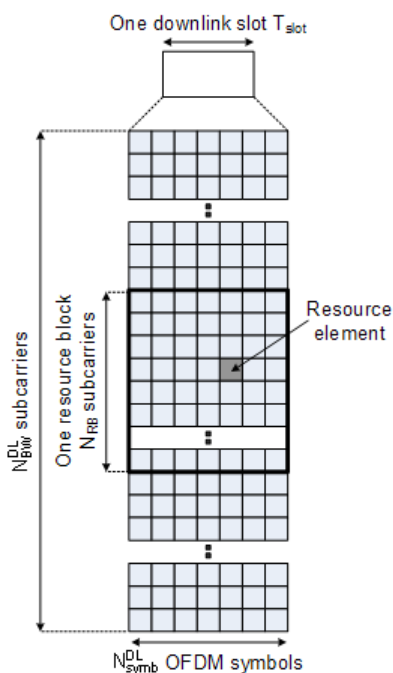

Fig. 1-5: Downlink Resource Grid
figure 1-5 shows the structure of the downlink resource grid for the duration of one downlink slot. The available downlink bandwidth consists of $N_{\text{BW}}^{\text{DL}}$ subcarriers with a spacing of $\Delta f = 15 \text{ kHz}$. In the case of multi-cell MBMS transmission, a subcarrier spacing of $\Delta f = 7.5 \text{ kHz}$ is also possible. $N_{\text{BW}}^{\text{DL}}$ can vary in order to allow for scalable bandwidth operation up to 20 MHz. Initially, the bandwidths for LTE were explicitly defined within layer 1 specifications. Later on a bandwidth agnostic layer 1 was introduced, with $N_{\text{BW}}^{\text{DL}}$ for the different bandwidths to be specified by 3GPP RAN4 to meet performance requirements, e.g. for out-of-band emission requirements and regulatory emission limits.
Data is allocated to the UEs in terms of resource blocks. A physical resource block consists of 12 (24) consecutive subcarriers in the frequency domain for the $\Delta f=15$ kHz ($\Delta f=7.5$ kHz) case. In the time domain, a physical resource block consists of DL N_{symbol} consecutive OFDM symbols, see figure 1-5. $N_{\text{symbol}}^{\text{DL}}$ is equal to the number of OFDM symbols in a slot. The resource block size is the same for all bandwidths, therefore the number of available physical resource blocks depends on the bandwidth. Depending on the required data rate, each UE can be assigned one or more resource blocks in each transmission time interval of 1 ms. The scheduling decision is done in the base station (eNodeB). The user data is carried on the physical downlink shared channel (PDSCH). Downlink control signaling on the physical downlink control channel (PDCCH) is used to convey the scheduling decisions to individual UEs. The PDCCH is located in the first OFDM symbols of a slot.